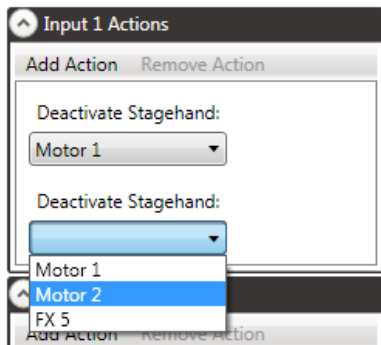

Figure 188
5. Repeat as necessary if you would like a single FX Input to deactivate multiple Stagehands—Motors *or* FXs (Figure 188).